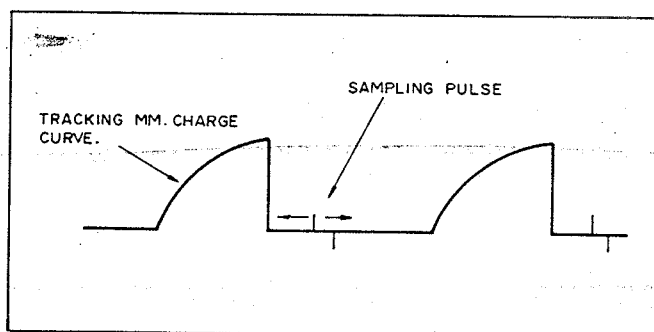

Fig. 4-105 Capstan Motor Speed (During short circuiting)
5. Adjust the CAPSTAN MOTOR SPEED control (RT605) so that the sampling pulse stands still or moves slowly on the cylinder tach pulse. (See Fig. 4-105)